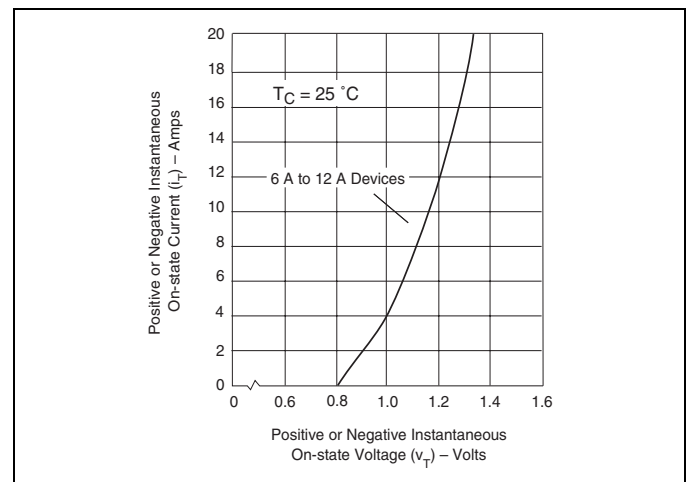
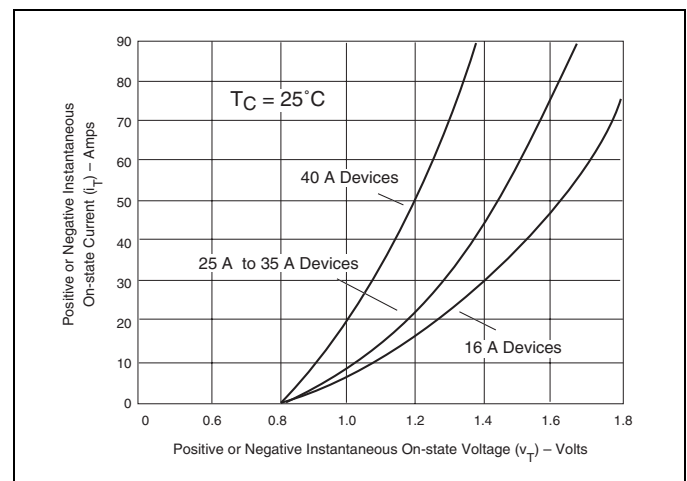

Figure E4.5 On-state Current versus On-state Voltage (Typical) (6 A to 12 A)
Figure E4.6 On-state Current versus On-state Voltage (Typical) (16 A to 40 A)
- (5) See Figure E4.5 and Figure E4.6 for i_T and v_T.